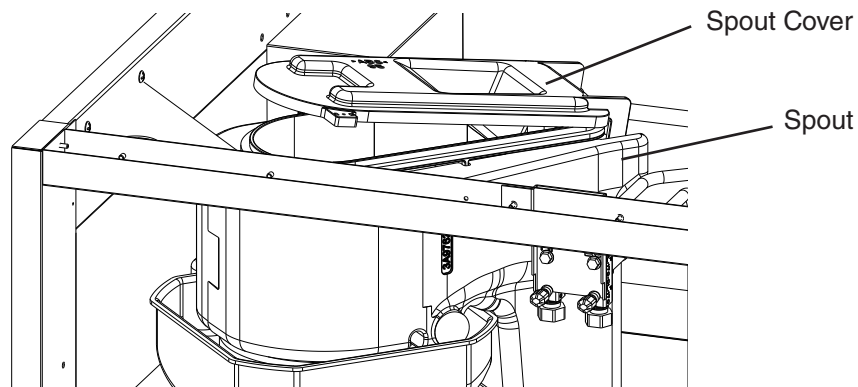

Fig. 21
- 6) "GM" LED and "COMP" LED are on. Open the spout cover slightly. See Fig. 21.